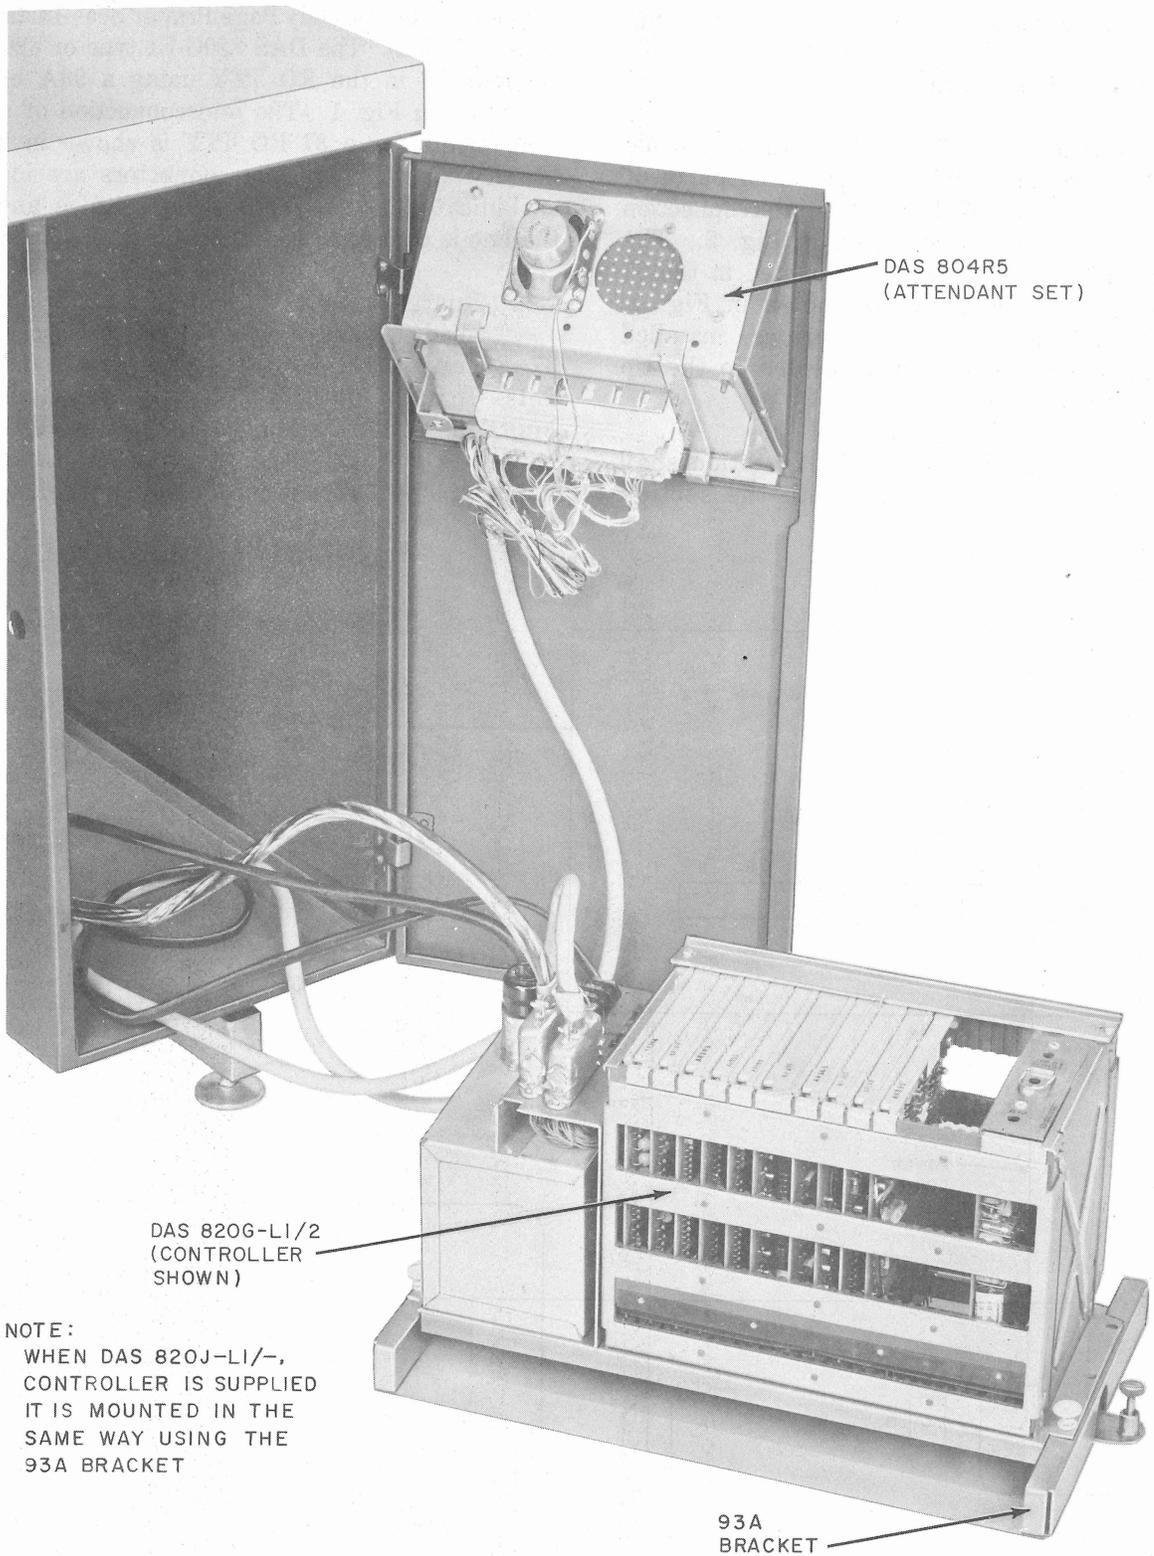
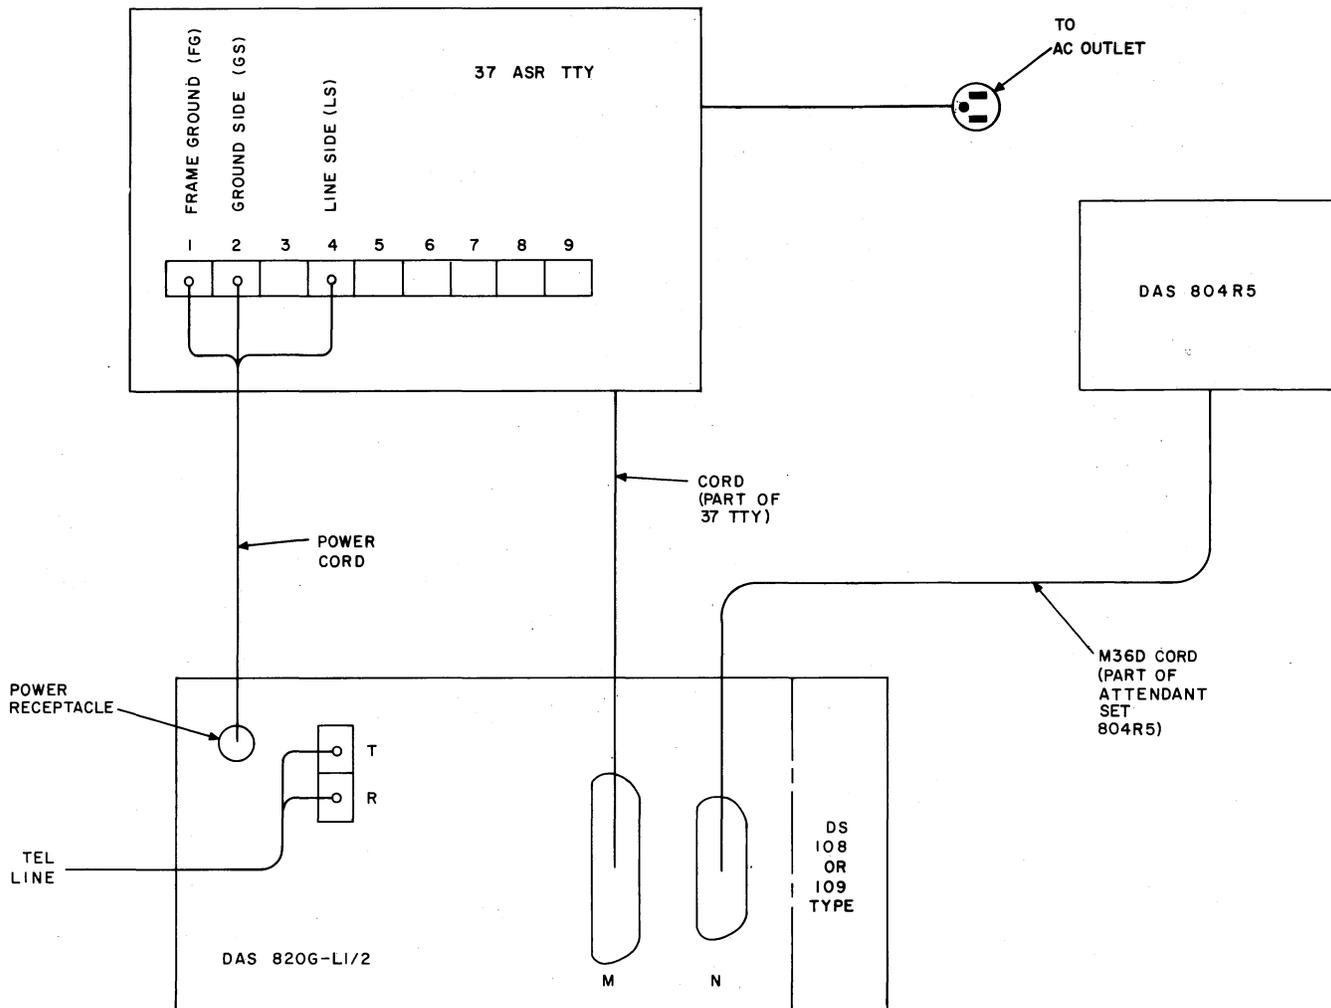
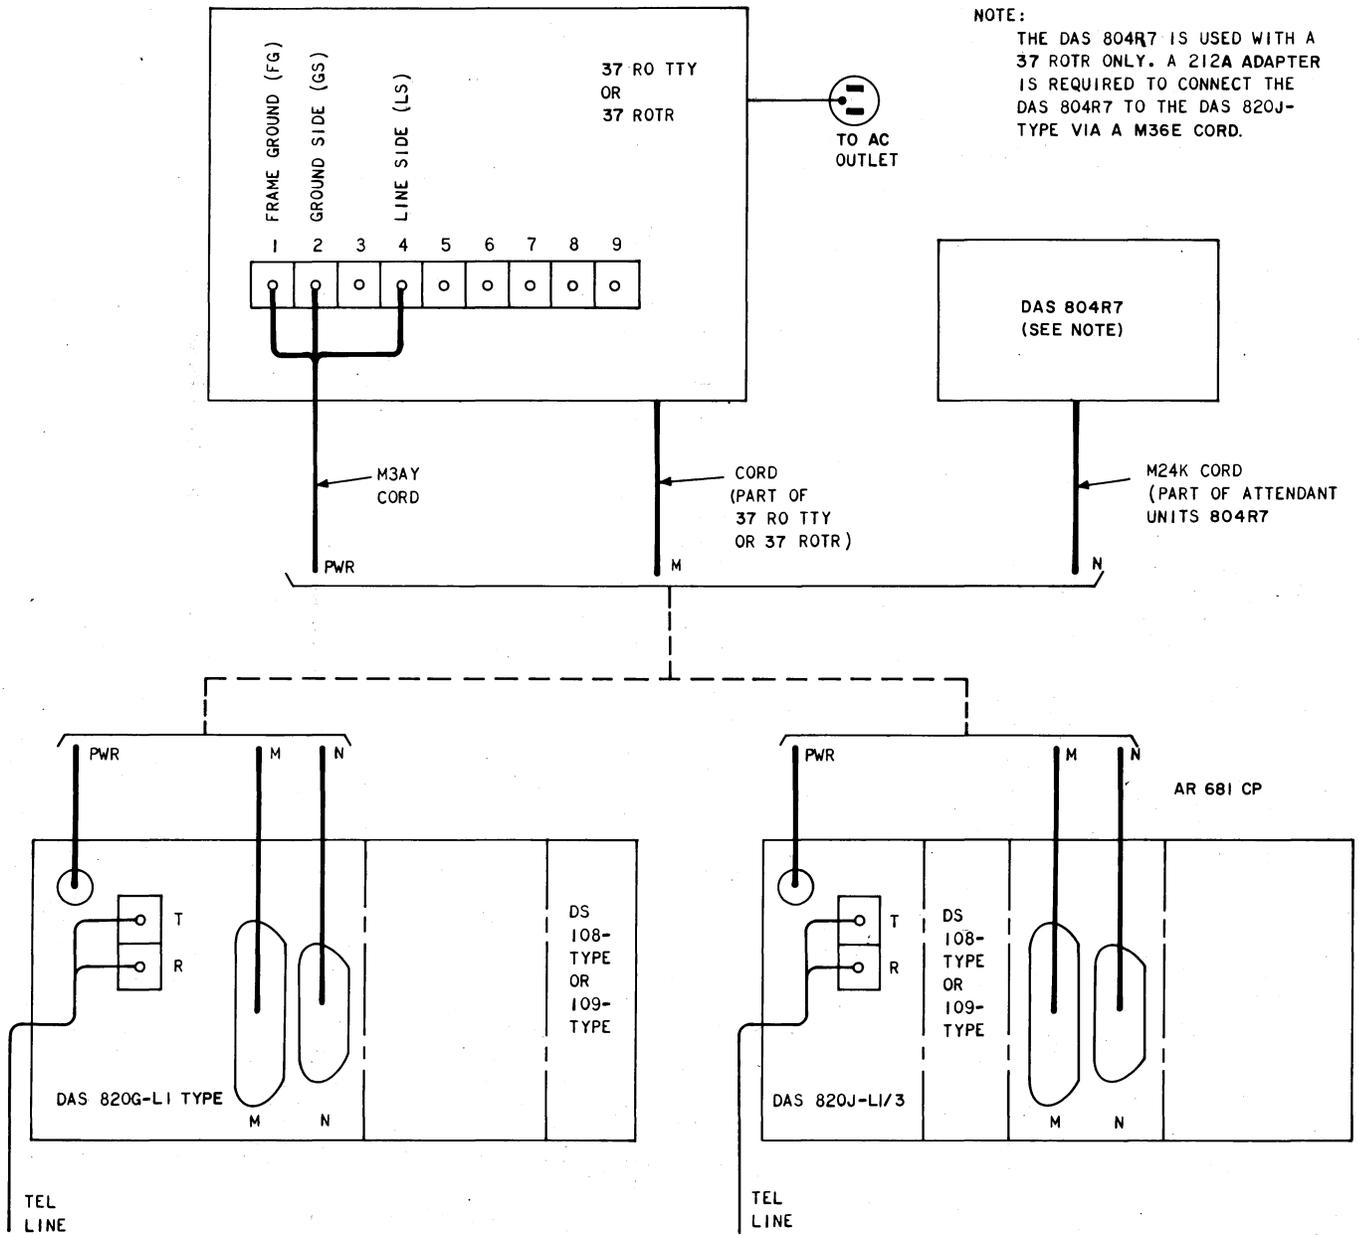

Fig. 1—Data Auxiliary Set 820G-L1—to be Mounted in a 37-Type TTY Using a 93A Bracket
Fig. 2—85A2 Station—37 ASR TTY Interconnection of Station Components
Fig. 3—85A2 Station—37 RO TTY and 37 ROTR—Interconnection of Station Components
- (1) Open door on right-hand front side of TTY pedestal.
- (2) Raise plunger on front of 93A mounting bracket and slide controller and 93A bracket forward.
- (3) Carefully place controller and 93A bracket on floor in front of TTY (Fig. 1).
2.06 Installation of a 37 ASR TTY shall be made in accordance with the applicable parts of the 574-layer for the 37 TTY. The interconnection of station components is shown in Fig. 2. The DAS 820G-L1 type controller is mounted in the 37 ASR using the 93A brackets shown in Fig. 1. Check that all plugs and connectors are installed as indicated and the line is connected to the tip (T) and ring (R) terminals (see Fig. 2).
entitled 37 Receive Only Page Printer Set—Installation (574-YYY-ZZZ). The DAS 820G-L1 type or 820J-type is mounted in the RO TTY using a 93A bracket as shown in Fig. 1. The interconnection of station components for a 37 RO TTY is shown in Fig. 3. Check that all plugs and connectors are installed as indicated by the appropriate figure and that the line is connected to the T and R terminals.
interconnection of station components for 37 ROTR stations is shown in Fig. 3. Check that all plugs and connectors are installed as indicated by the previously referenced figure and that the line wire is correctly connected to the T and R terminals. The spacers provided with DAS 820J will be required to mount the controller in the KS-20018-type cabinet (Fig. 5).